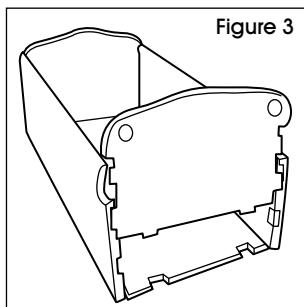

Figure 3
4. Position the floor between the side panels with the word "FLOOR" facing the roof. Align the tabs and slots and push the floor panel down until the tabs on the floor lock into the slots on the back panel. (See Figure 3)